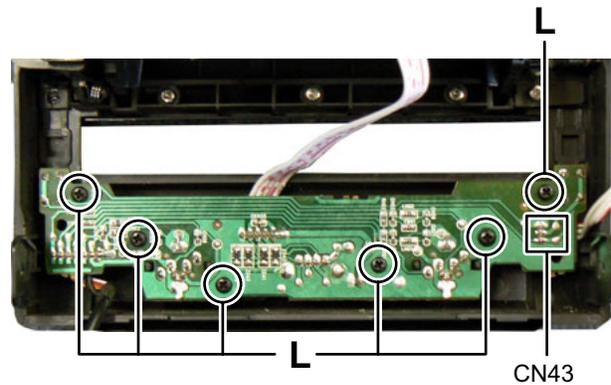

Fig.14
3.1.9 Removing the Display board (see Fig.14 to 16)
- (1) Remove the six screws **L** attaching the USB board. (See Fig.14)
(2) Disconnect the connector wire from Display board connected to connector **CN43** of the USB board. (See Fig.14)